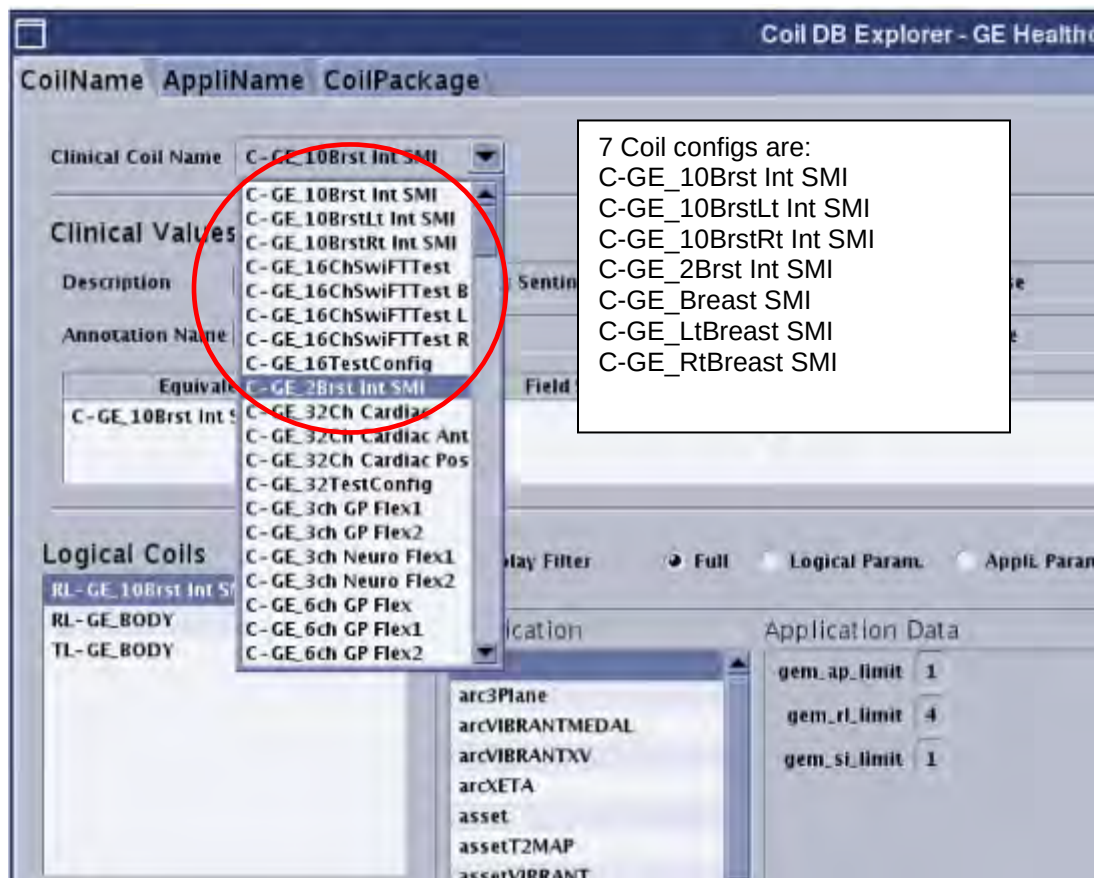

Figure 56: Confirmation of coil configurations installed
3. Select "Click here to start this tool". The Coil DB Explorer window will open and under the "Coil Name" tab there is a "Clinical Coil Name" control. Click on this and there will be a dropdown list of all the logical coil names. There should be seven names that end with "SMI" (they will be listed alphabetically). This indicates the coil configs are present in the Coil DB. Reference Figure 56. If the coil is not present on the list proceed to step 6.